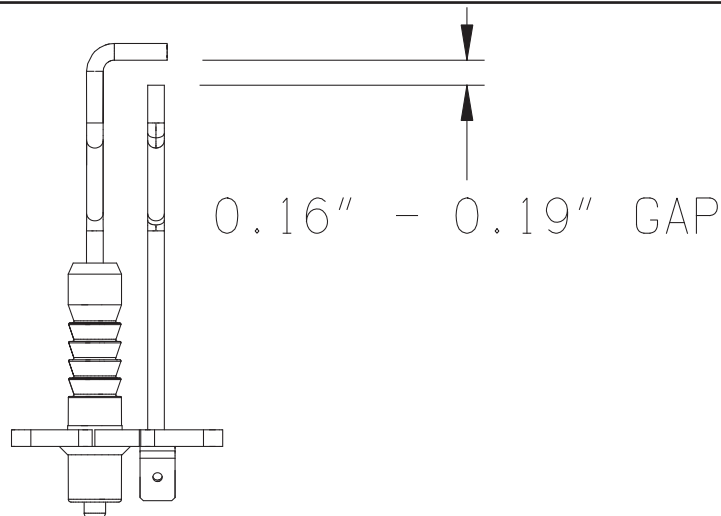

FIGURE 13.2: IGNITION ELECTRODE GAP
- o. **Inspect the ignition electrode and flame rod** for deposits. Clean any found with steel wool. Do not use sand paper or Emory cloth for this cleaning. Inspect the ceramic portion of both of these parts for cracks and replace if any are found. Verify that the ignition electrode gap is within the range shown in Figure 13.2